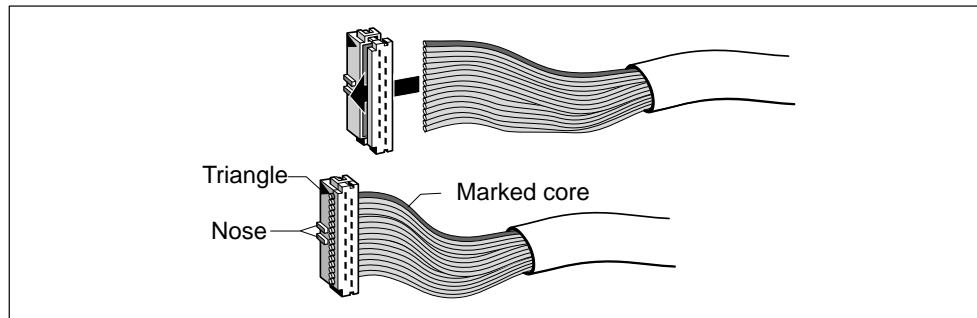

Figure 8-5 Threading the Round-Sheath Ribbon Cable into the Connector
2. Thread the round-sheath ribbon cable into the 16-pin connector. The positions of the details marked must be strictly observed (see Figure 8-5).